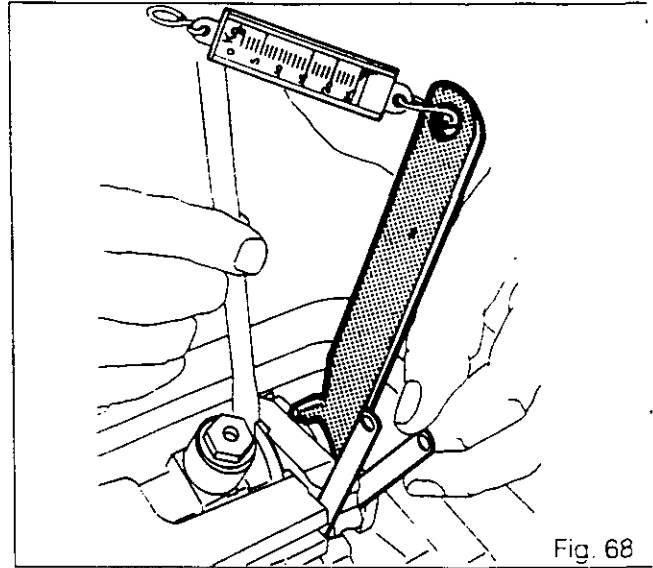

Fig. 68
227. Tighten the castellated nut (21) to a torque of 50 Nm using spanner 3615334 M01 and a spring balance (Fig.68).